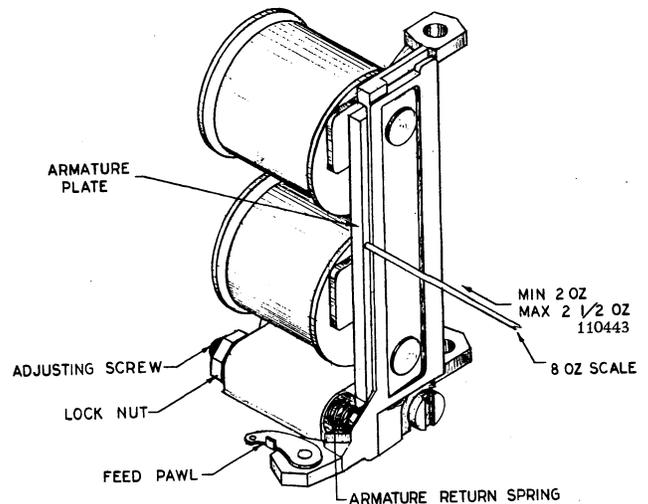

FIG 1
2.02 Using a TP 110443 8 oz. scale applied to the midpoint of the armature's leading edge as shown in Fig. 1, the adjusting screw shall be tightened until it requires a min. of 2 oz. to max. of 2 1/2 oz. to just move the armature. Do not apply enough pressure to move the numbers wheel. This will be adequate to ensure positive action.